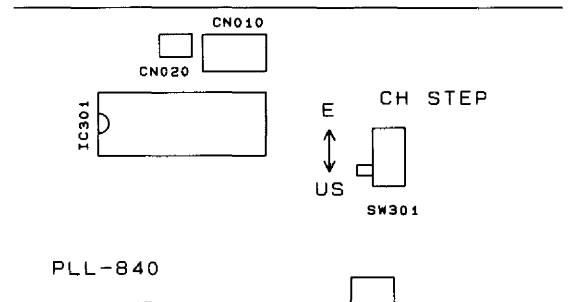

Fig.3
- Locate CH STEP SW301 on the PLL P.C.Board and set it to "E" for 220 V European frequency stepping (See Fig.3).